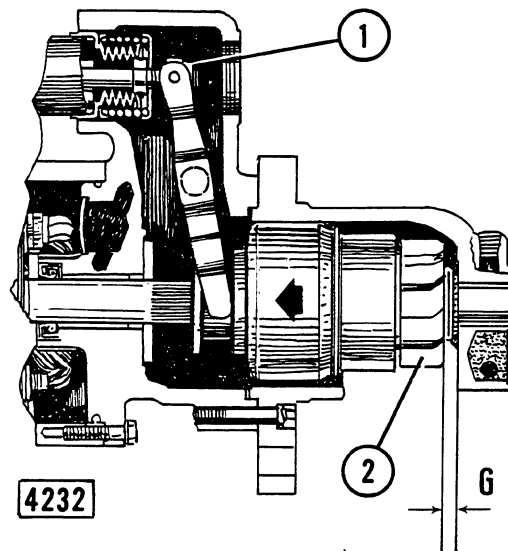

Fig. 3-82 - Pinion clearance measurement.
Check after reassembly to make sure that clearance **G** (Fig. 3-82) between pinion and nose housing is within specifications.
- Momentarily flash a jumper lead (2). The drive will now shift into cranking position and remain so until battery is disconnected.
- Push the pinion or drive back towards the commutator end to eliminate slack movement (arrow in Fig. 3-82).
- Measure the distance **G** between drive and drive stop: it must be within specifications in 3.4.6. If necessary adjust by nut 1 (Fig. 3-82).